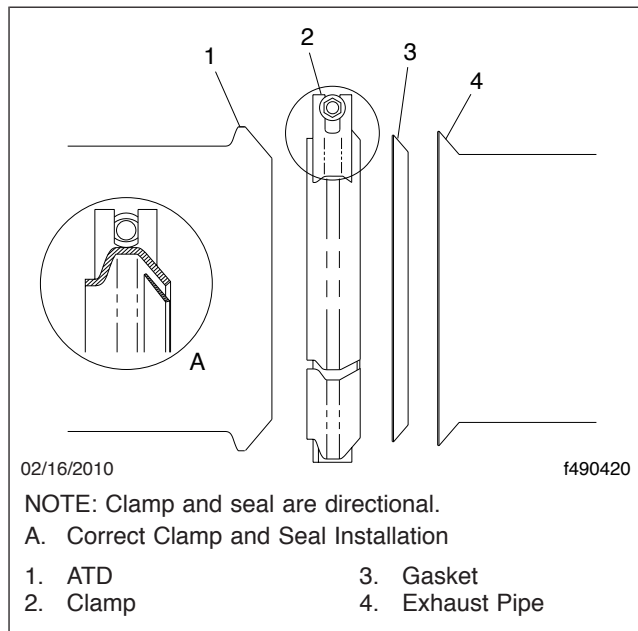

Fig. 2, Spherical Clamp Installation
- Align the SCR catalyst inlet to the exhaust pipe, and install the spherical clamp. Do not tighten at this time. See Fig. 2 for proper installation.